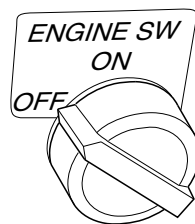

Figure 18 - Engine Switch In OFF Position
3. Turn engine switch to the OFF position (see Figure 18).